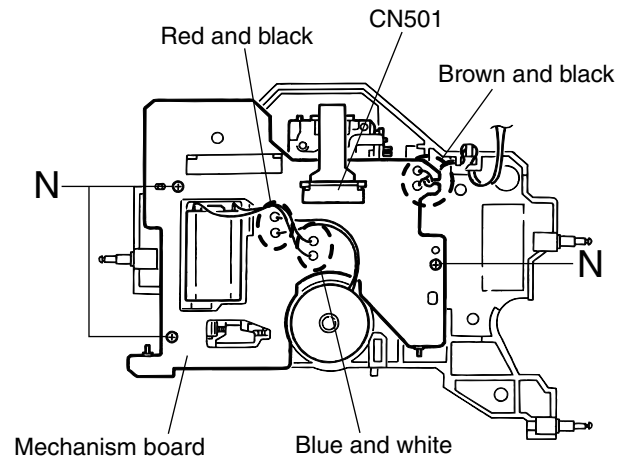

Fig. 23
■ Removing the mechanism board / pickup assembly (See Fig.23 to 26)